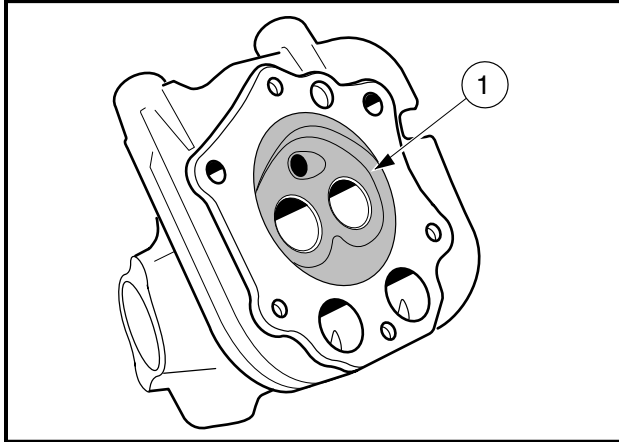

Figure 18-14 Combustion Chamber
- Smooth out any damaged spots in the combustion chamber (1) using a small grinder. Sharp edges in the combustion chamber may cause pre-ignition. Do not remove any more material than is necessary or change the shape of the combustion chamber (**Figure 18-14, Page 18-10**).